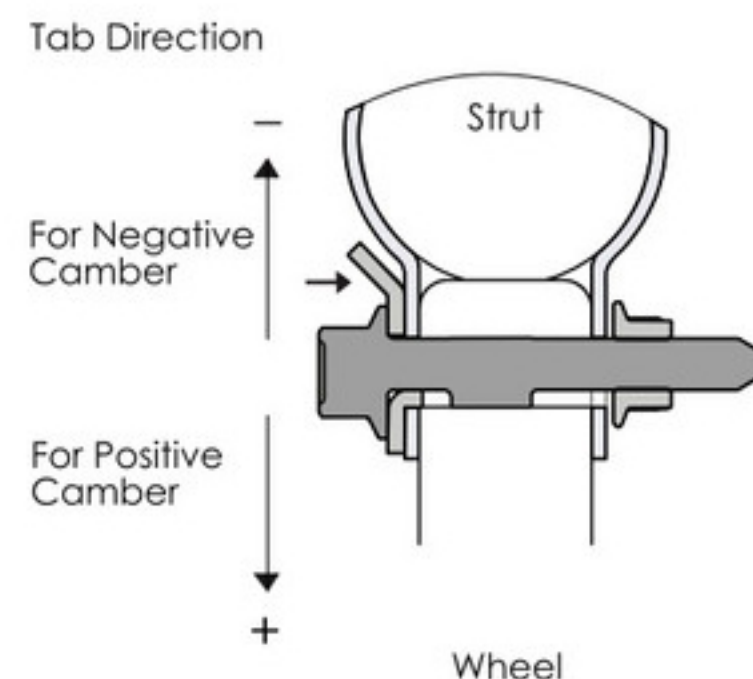

Fig 2
- 5) Position bolt and washer with small inner tab located inside clevis hole, with washer flush to strut. (Fig 2)